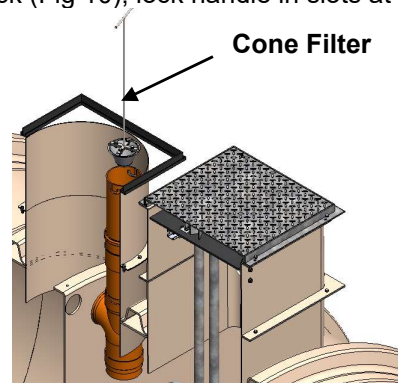

Figure 10
- 4.27. Remove the 600mm² access cover (from manhole closest to pumps) and fit the mesh filter cones into the pipe work protruding up neck (Fig 10), lock handle in slots at top of pipe work, replace cover.